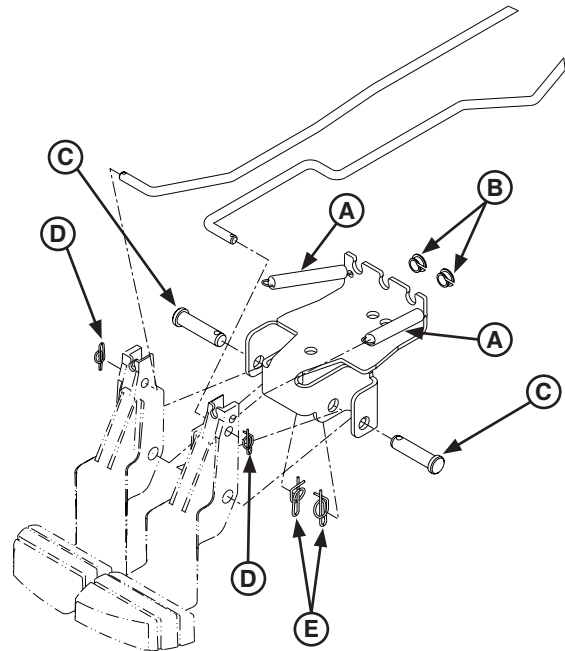

Figure 4
4. Remove the snap-in nyliners that hold the foot end pedal release rods into the pedal mounting bracket (see Figure 4 above).
5. Using needle nose pliers, remove the rue ring cotters (A) that hold the clevis joints (B) to the studs on the side control release pedal weldments.
6. Remove the foot end pedal release rods (C).